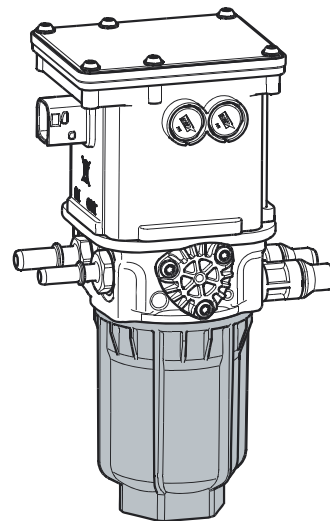

Figure 5-5-20 Replace Filter Housing
14. Reinstall the filter housing. See Figure 5-5-20. Use a 46 mm socket. Tighten to 59 lb-ft (80 Nm).